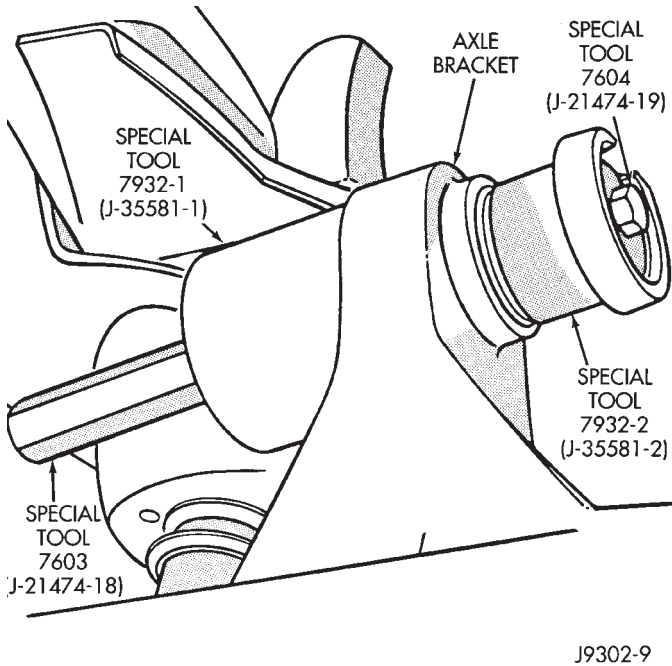

Fig. 4 Axle Bracket Bushing Removal
- (1) Remove the upper suspension arm from axle. Refer to Upper Suspension Arm Removal in this Group.
- (2) Insert Spacer 7932-3 (J-35581-3) around the bushing in the axle bracket ears (Fig. 4).
(3) Assemble and install Bushing Removal/Installer (Fig. 4).
(4) Remove the bushing by tightening the hex-head on Long Nut.